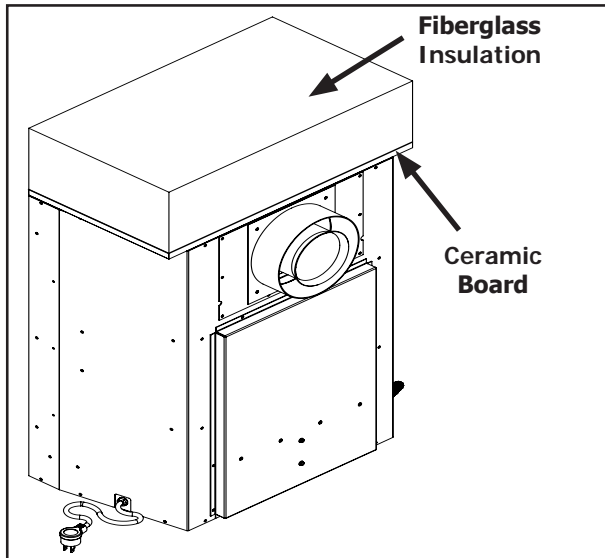

Figure 19. Unit Insulation - Rear Vent
**Rear Vent:** When using the rear vent configuration both the ceramic board and fiberglass insulation are required. Place the ceramic board on top of the unit first and then place the insulation on top of the ceramic board as shown in Figure 19.